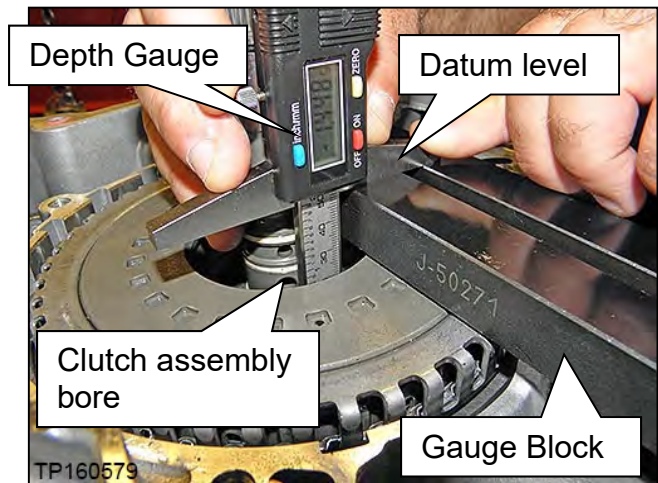

Figure 134
- c. Position the Depth Gauge on the Gauge Block (Figure 134).